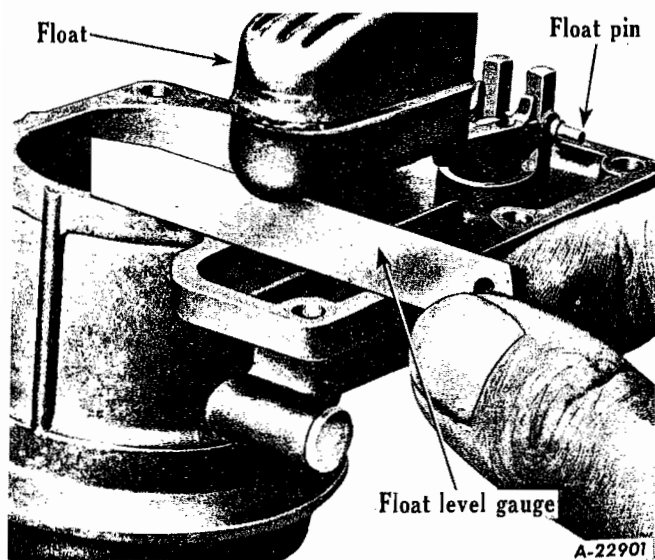

Fig. 5
13. Remove idle adjustment screw, spring, idle port rivet plug, throttle lever assembly, washer, fast-idle arm, valve attaching screws (2), and throttle shaft. Then remove throttle shaft seal by prying out seal retainer. Do not remove vacuum passage orifice (pressed in).
14. Remove float pin, float, and needle and seat assembly from air horn casting (Fig. 5).